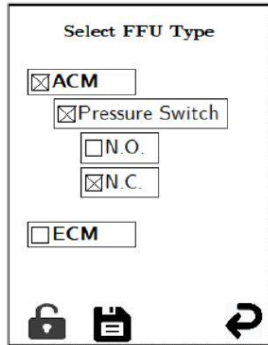

Figure 3: FFU Configuration
- From Settings page 1, select FFU Type to configure FFUs, shown in Figure 3. Select ACM or ECM based on the FFU model.